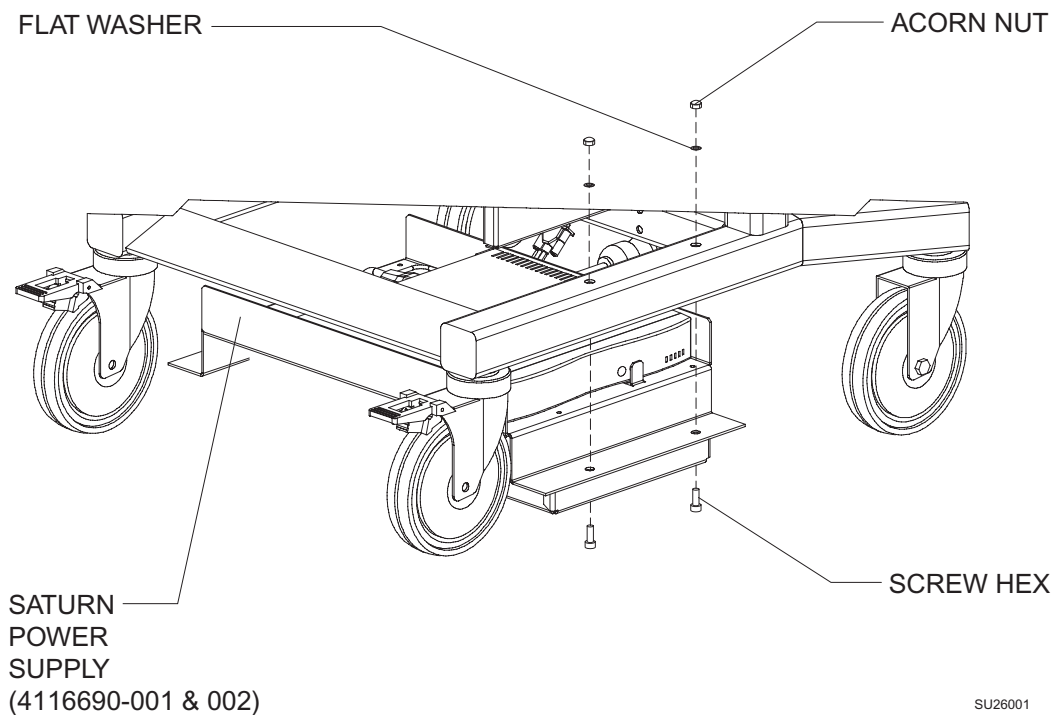

FIGURE 6. Existing Saturn Power Supply Mounting Configurations on the Narkomed 2B and GS
6. While supporting the power supply, remove four screws, four flat washers, and four acorn nuts attaching the power supply to the underside of the Narkomed frame. See Figure 6. Discard old power supply and attaching hardware.